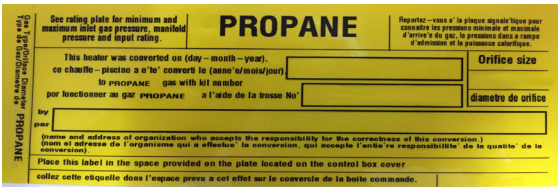

Figure 10.
17. If the combustion is satisfactory and the exhaust analysis is within range, complete the conversion by attaching the conversion label. See Figure 10.